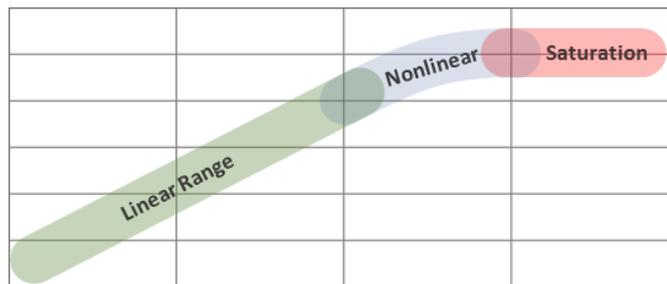

Figure 6: Illustration of un-calibrated measuring behavior
- To measure exposure to dust on humans, install the Dumo at a height relative to the respiratory tract (see Figure 6).